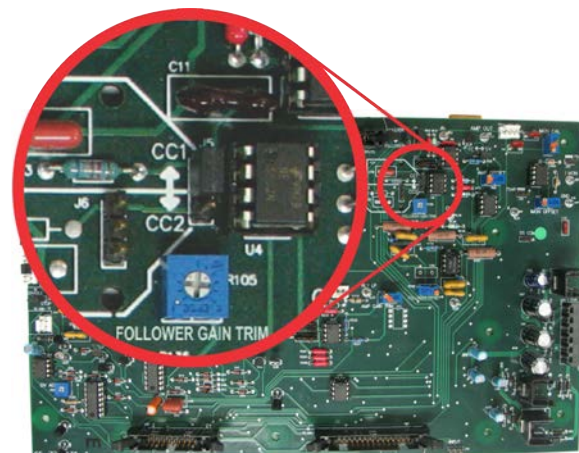

Figure 5.3 – Compensation Setting
When the 2105 amplifier is used in Controlled Current (CC) mode, the current control loop is tuned with one of two available RC networks: **CC1** (R63 and C16) or **CC2** (R82 and C25). Place **Jumper J5** in the **UP** position to select the **CC1** network (factory default). Place **Jumper J5** in the **DOWN** position to select the **CC2** network. See **Figure 5.3**. For more information on Controlled-Current operation, see the "**Applications**" section of this manual.